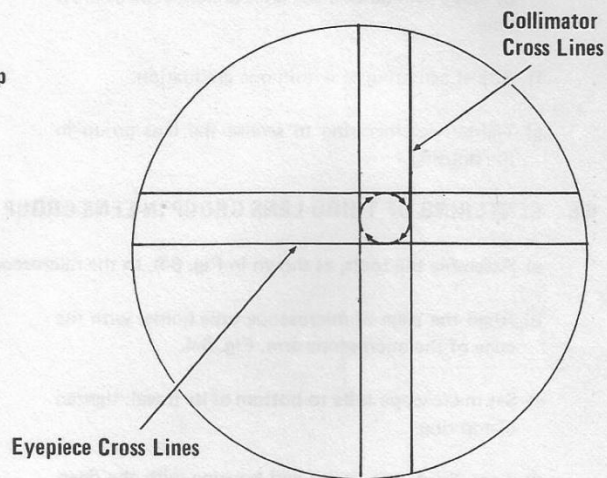
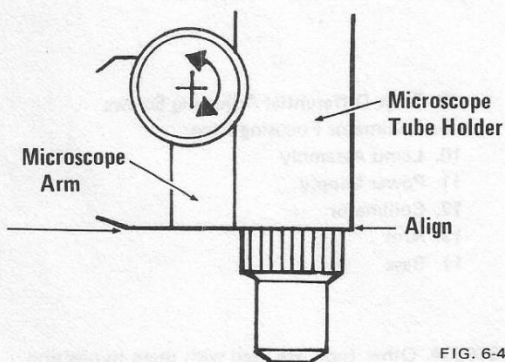

FIG. 6-7
FIG. 6-4
- b) Align the edge of microscope tube with the edge of the microscope arm. Fig. 6-4.
- c) Align the edge of microscope tube with edge of microscope arm. Fig. 6-4.
- b) Align the edge of microscope tube holder with the edge of microscope arm, Fig. 6-4.
- c) Loosen retainer ring (35) then place second lens group and housing in Tool No. 3650524.
- b) Align the edge of microscope tube holder with the edge of the microscope arm, Fig. 6-4.
- a) Align the edge of microscope tube holder with the edge of the microscope arm. Fig. 6-4.
- c) Remove any focus spacers (11) from 1st lens group housing (3); place first lens group in holding tool 3650523.
- e) While looking into the microscope, use stage screws to move collimator cross lines near the graticule cross lines. Rotate the lens group slowly in either direction. The collimator cross lines will appear to travel in the same direction as the lens is rotated. That is, if the lens group is rotated in a clockwise direction, the cross lines will travel the same direction. Fig. 6-7.
- Rotate focus knob to align edge of microscope tube holder with edge of microscope arm. Fig. 6-4.